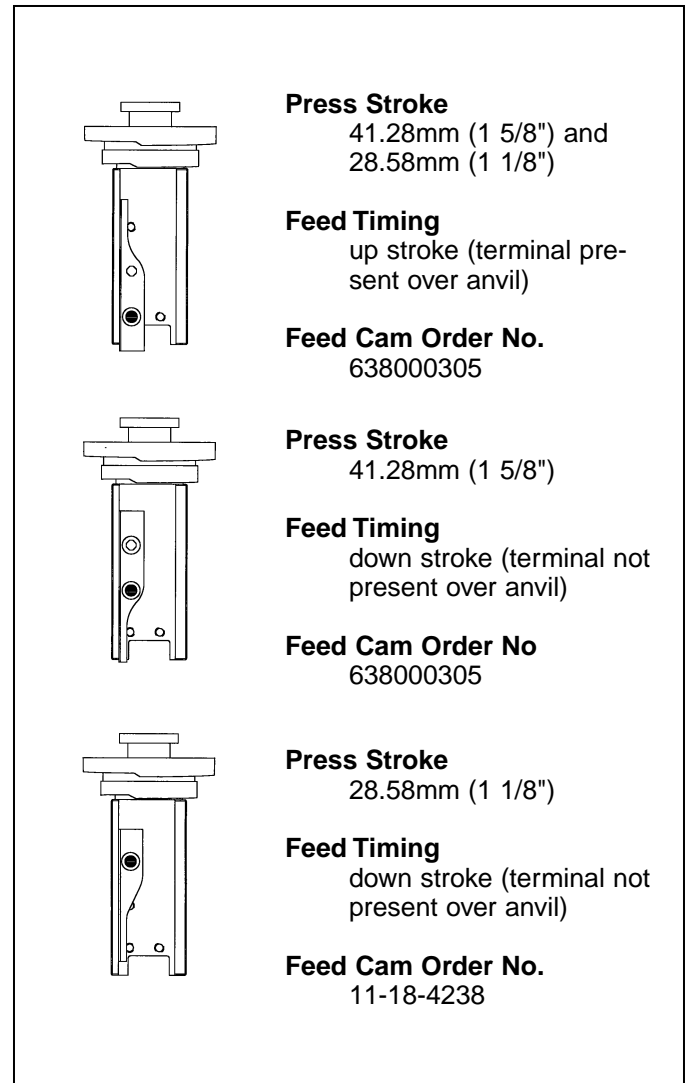

Figure 2.3.4.2 Mounting Positions for the Feed Stroke Cam
- 2.3.4.2 Determine the desired feed timing. Typically when the applicator is mounted in a wire processing machine, the feed stroke cam should be assembled in the down stroke position. While the press is idle in the up position, a terminal will not be present over the anvil. For most bench applications, the cam is installed in the up stroke position. This will leave a terminal over the anvil when the press is idle in the up position. (Refer to Fig. 2.3.4.2 Mounting Positions for the Feed Stroke Cam)
- 2.3.4.7 Position the cam in the desired position for feeding and attach with the M4 screw. (Refer to Fig. 2.3.4.2 Mounting Positions for the Feed Stroke Cam)